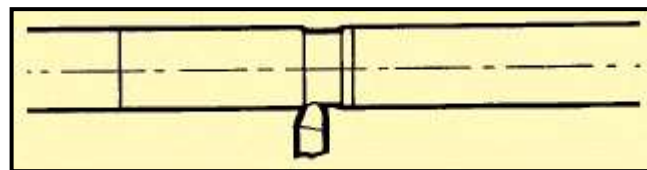

Figure 7-55. Machining an undercut.
**Undercuts:** Undercuts are the reductions in diameter machined onto the center portion of workplaces to lighten the piece or to reduce an area of the part for special reasons, such as holding an oil seal ring. Some tools, such as drills and reamers, require a reduction in diameter at the ends of the flutes to provide clearance or runout for a milling cutter or grinding wheel. Reducing the diameter of a shaft or workpiece at the center with filleted shoulders at each end may be accomplished by the use of a round-nosed turning tool bit. This tool bit may or may not have a side rake angle, depending on how much machining needs to be done. (Figure 7-55).